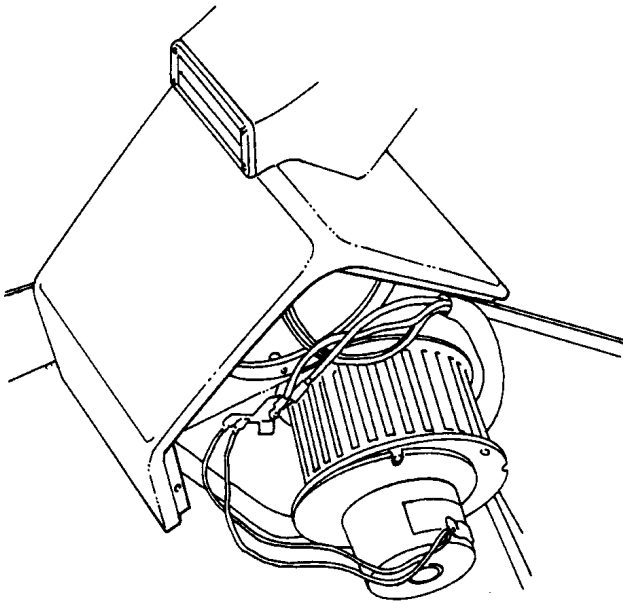

Figure 45 Screws Holding Blower Motor Assembly in Housing
4. Remove the five screws that secure the blower motor assembly in the housing (Figure 45).
3. Install the blower motor into the blower motor housing using the five screws removed in Step 4 of Remove above (Figure 45).